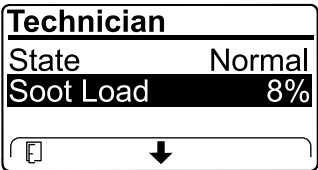

Figure 40
- View the soot load which is measured as the percentage of soot in the DPF (Figure 40); refer to the soot-load table.